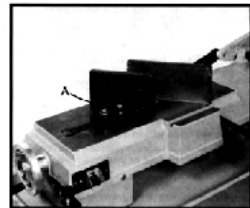

Fig. 8
2. Position vise and re-install as picture in Fig. 8. Pay particular attention to bolt hole location.
4. Adjust movable vise parallel to fix vise by loosening bolt (A, Fig. 8), adjusting to parallel and tightening bolt.